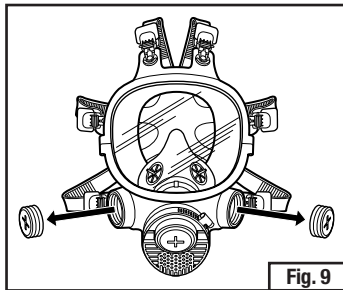

Fig. 9
1. Remove the 3M™ Plugs 7890, if not already fitted with 3M™ Bayonet Adapter 701 (Fig. 9).